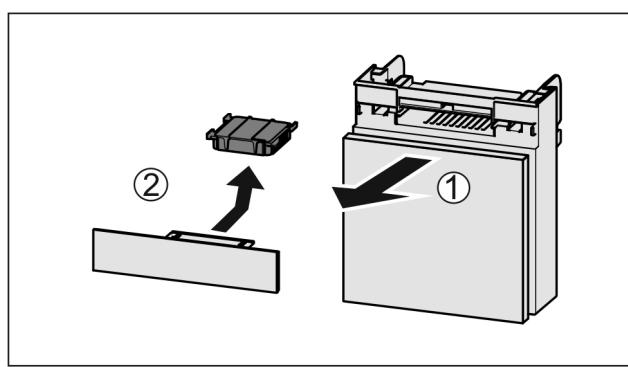

Fig. 98
- Pull out the compartment Fig. 98 (1).
- Remove the carbon filter Fig. 98 (2).